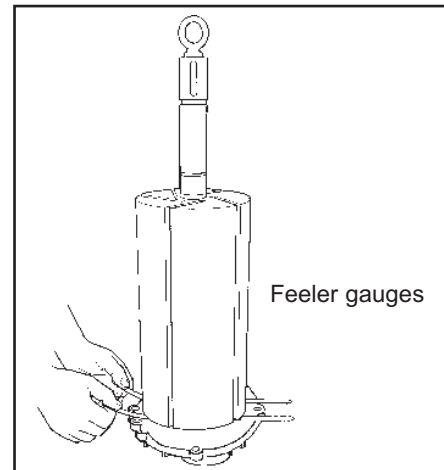

Figure 24
2. With a feeler gauge on each side of the rotor shaft, as shown on Figure 24, check the clearance.